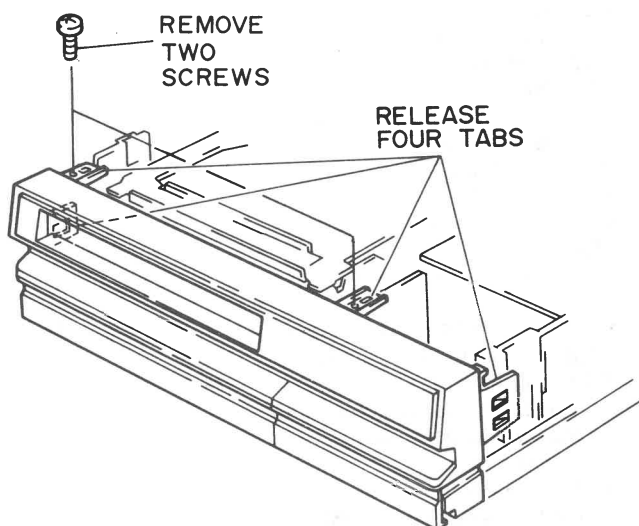

Fig. 1 Front Panel Removal
### Front Panel Removal (Fig. 1)
2. Remove the front panel as shown in Fig. 1.